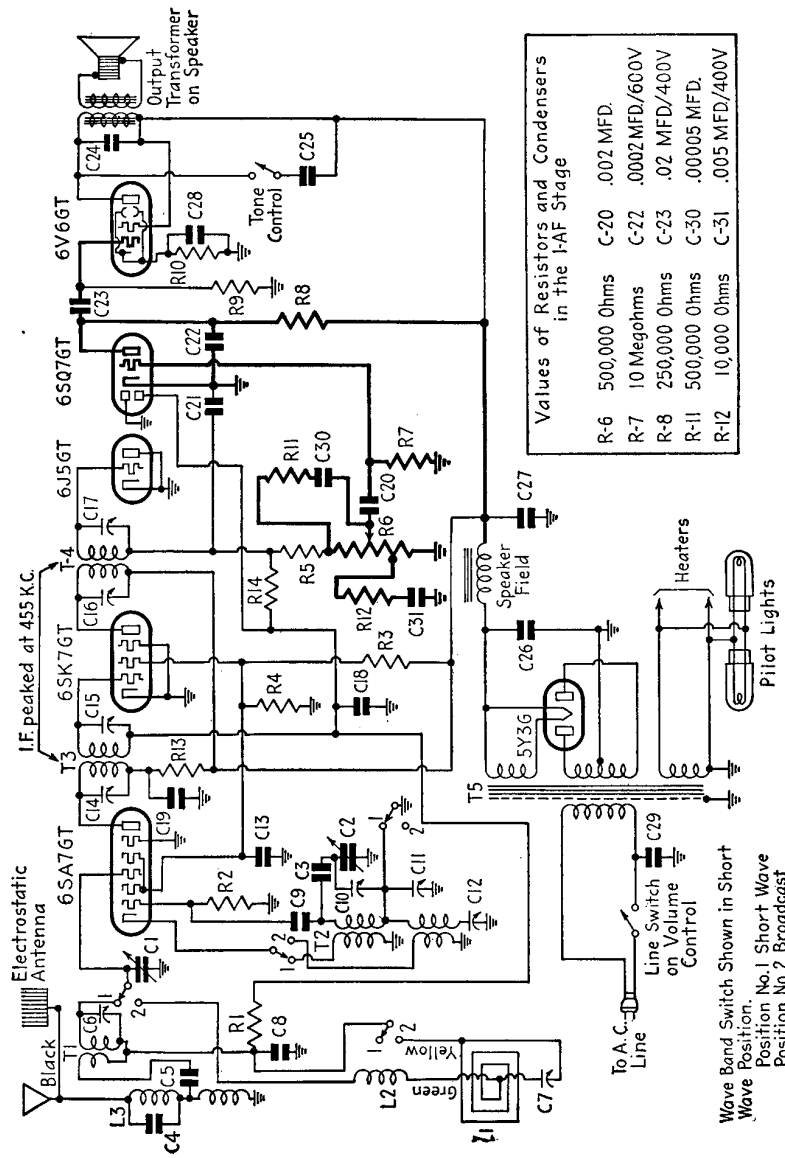

Fig. 11-24.—Emerson Model EQ-368 receiver. The first AF circuit is shown in heavy lines.
Figure 11-24 illustrates some of the points taken up in this chapter on the first AF stage. Note the tone-compensation circuit connected to the volume control *R-6*. At high-volume levels the filter is ineffective. When the potentiometer arm is in a low-volume position near the tap, condenser *C-31* and resistor *R-12* by-pass high audio frequencies to ground. Since the attenuation of very high audio frequencies will be excessive, the circuit composed of *R-11* and *C-30* restores some of these frequencies to the arm of the volume control. The net result is an increase in low AF response at low-volume levels without entirely removing the high audio frequencies.
2. The receiver of Fig. 11-24 has poor tone quality. A voltage check shows 50 volts on the first AF plate. What is likely to be wrong and how would you confirm your assumption?
3. The receiver of Fig. 11-24 has a noisy volume control. After the volume control is replaced with an exact replacement, the volume remains at one level regardless of the position of the control arm. What is wrong? How would you check to prove it?